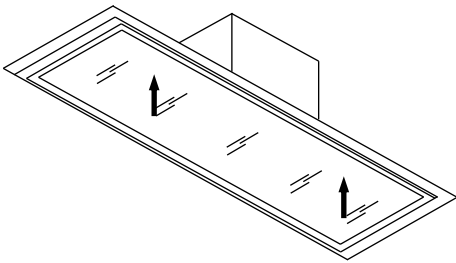

Fig 9
5. Push up at each side of the glass to shut (Fig 9).